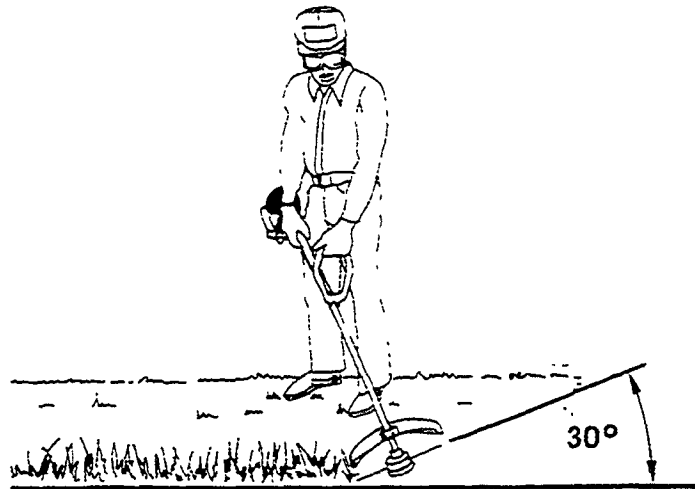

Figure 23
- Hold unit so the rotary head is at an approx. 30° angle to the ground (Fig. 23).
- Cut from left to right with the engine at full throttle, so that clippings will be thrown away from you (Fig. 23).